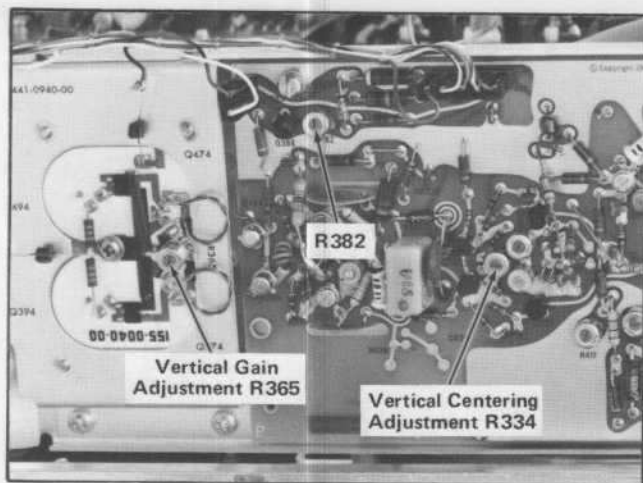

Fig. 5-8. Location of Vertical Output Amplifier Centering and Gain adjustments and R382.
e. ADJUST—Vertical Centering adjustment, R334 (see Fig. 5-8), to move the trace twice the distance observed in part d away from the center horizontal line.
e. ADJUST—R382 (see Fig. 5-8) for best flatness of both traces. This is a preliminary adjustment, and may have to be re-adjusted during High Frequency Compensation.
k. ADJUST—Vertical Gain adjustment R365 (see Fig. 5-8) for exactly 5 divisions of deflection.